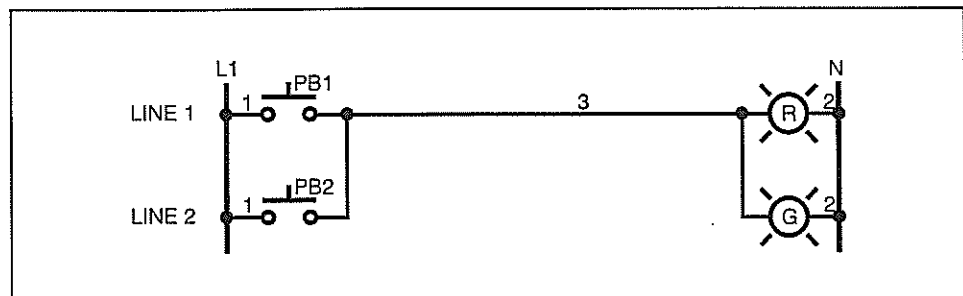

Figure 27. First Ladder Diagram for Skill 4
- 1. Study ladder diagram in figure 27. Identify the two inputs and the two outputs.